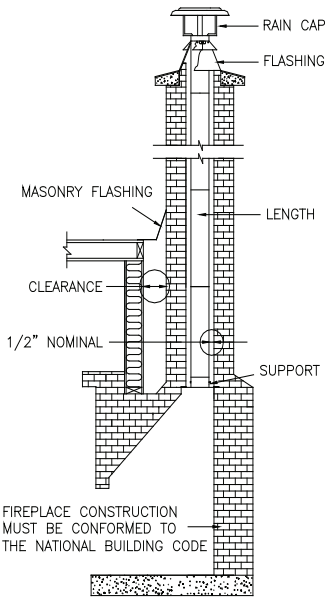

Fig. 8 - Lining system for new fireplace installation
- **NEW CHIMNEY LINING (fig.8)**